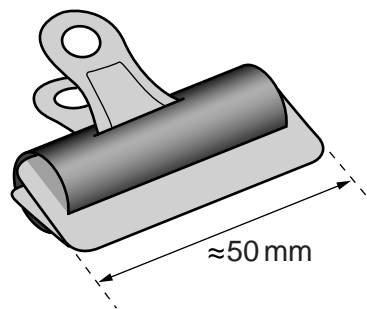

Fig. 1.2
- 2 A suitable bulldog clip as shown in Fig. 1.2 should have a gripping edge of approximate length 50 mm.